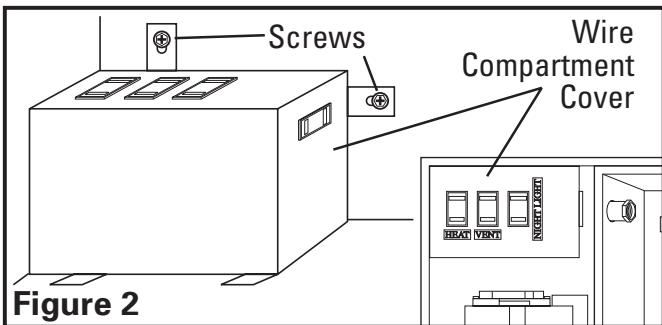

Figure 2
3. Remove the wire compartment cover by loosening the two screws holding the cover in place (**Figure 2**).